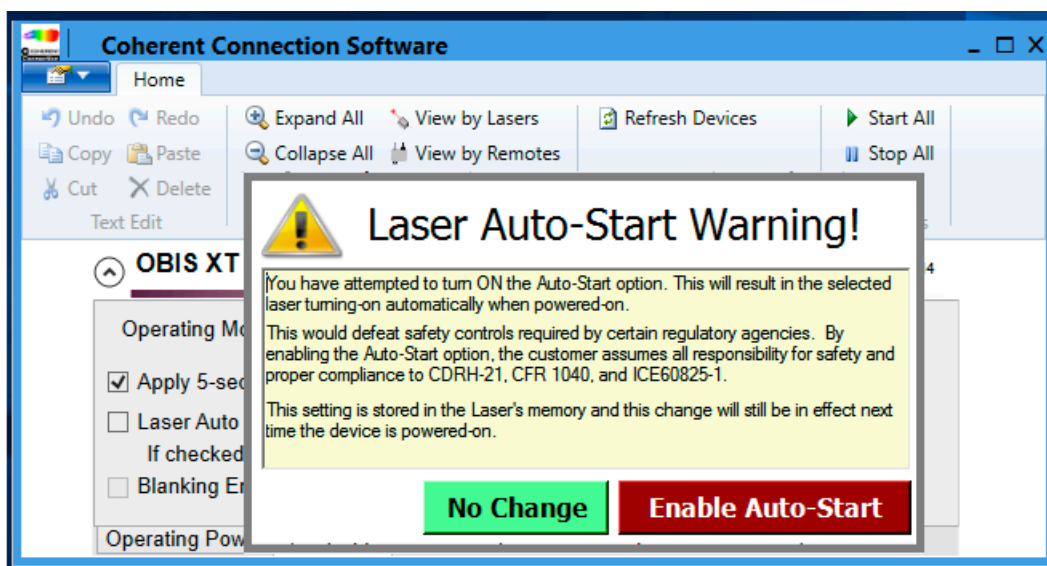

Figure 4-32. Warning Message – Laser Auto Start
2. Click the check box to set **Laser Auto Start** to ON. When this check box is selected, the warning message shown in Figure 4-32 is shown.